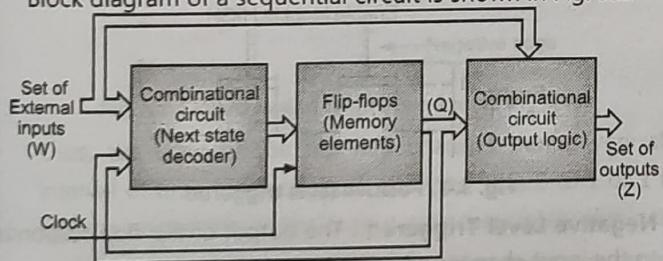

Fig. 3.1 : Block diagram of sequential circuit
- Block diagram of a sequential circuit is shown in Fig. 3.1.
- As shown in above Fig. 3.1, the circuit accepts a set of external inputs W and produces a set of outputs Z . The values of the outputs of the flip-flops are known as the state Q of the circuit. Upon application of clock pulse, the flip flop outputs change their state (circuit goes to next state). As shown in Fig. 3.1 the next state of the circuit is decided by the combinational circuit (next state decoder) that provides the inputs to the flip-flops. The combinational logic that provides the inputs to the flip-flops, derives its input from two sources :
- Set of external inputs (W) and
- As shown in Fig. 3.1, the outputs of the sequential circuit are generated by another combinational circuit (output logic). The outputs are generated from the present state Q of the circuit and the set of primary inputs W .